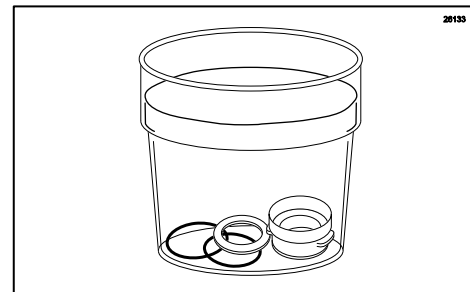

Figure 89
5. Place the Spout Adapter, o-rings, and white gasket in approved sanitizer solution and soak for at least 1 minute. (See Figure 89.)